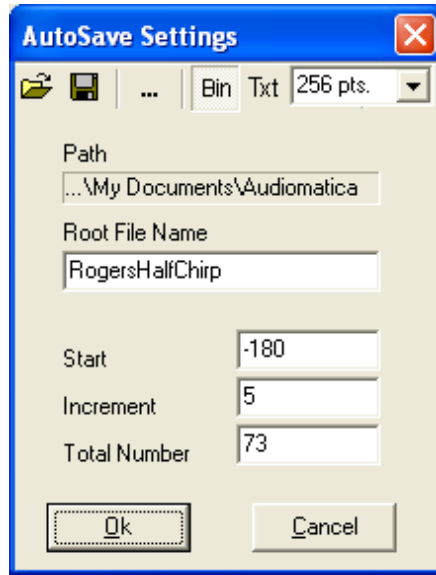

Figure 12.18
Let's start with setting the autosave function (see also 5.3). Pressing **Alt-F2** we recall the Autosave Setting dialog (fig.12.18); here we input the desired filename ('RogersHalfChirp'), start (-180) increment (5) and total (73) values.